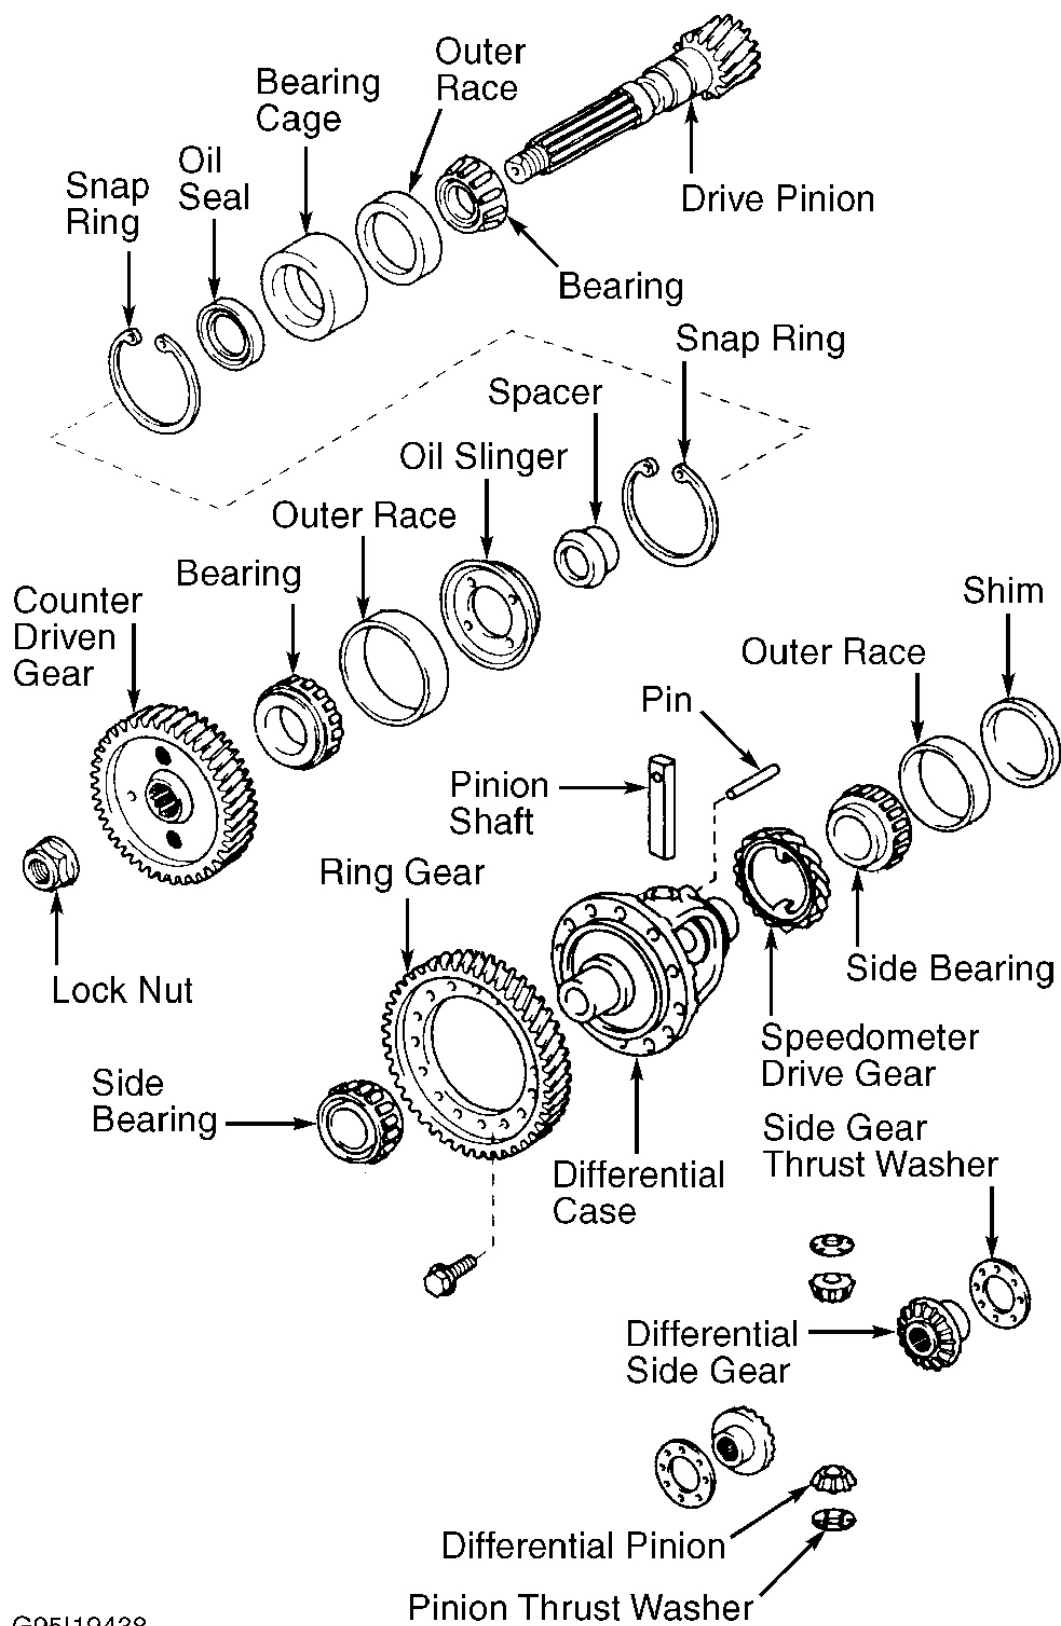

Fig. 62: Exploded View Of Differential Assembly (A-541E)
2. Mount differential in vise. Using dial indicator, measure pinion gear backlash. See **Fig. 61** . Backlash should be .002-.008" (.05-.20 mm). From ring gear side of case, drive out pinion shaft roll pin. Remove pinion shaft. Remove pinion gears, side gears and all thrust washers. See **Fig. 62** . Examine all components for wear and replace as needed.